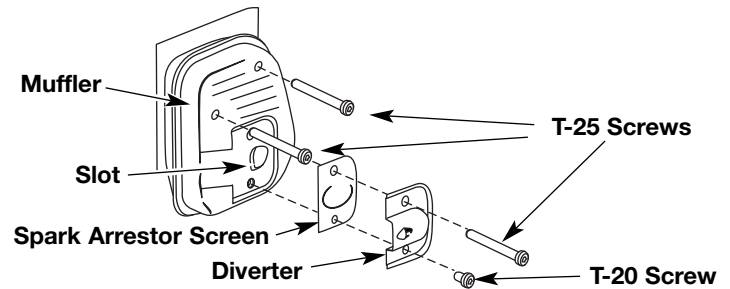

Fig. 35
- With a flat blade screwdriver or Torx T-20 bit and a T-25 bit, remove the 4 screws attaching the spark arrestor cover to the muffler (Fig. 35).